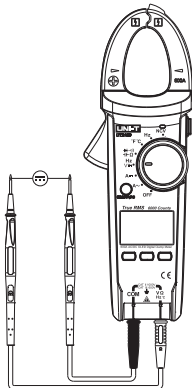

Fig. 5
4.Measurement of DC voltage (shown as Fig. 5)